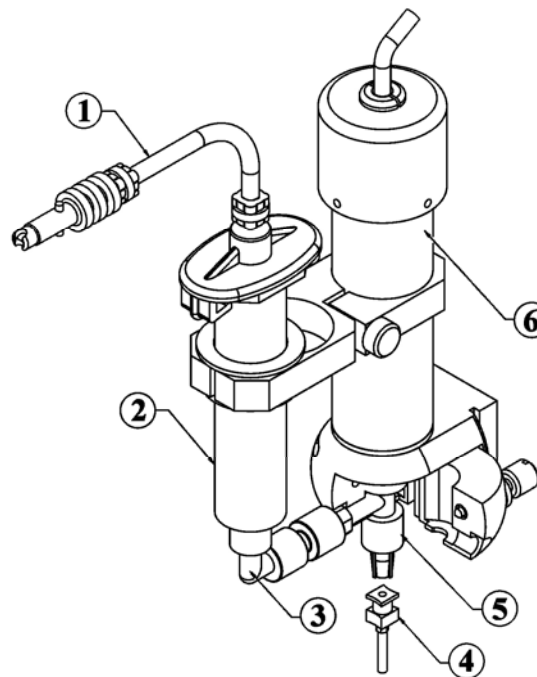

Figure 1.0
4. THEORY OF OPERATION (refer to figure 1.0)
Removal of a feed path assembly: Refer to figure 1.0
Installation of a new feed path assembly: Refer to figure 1.0